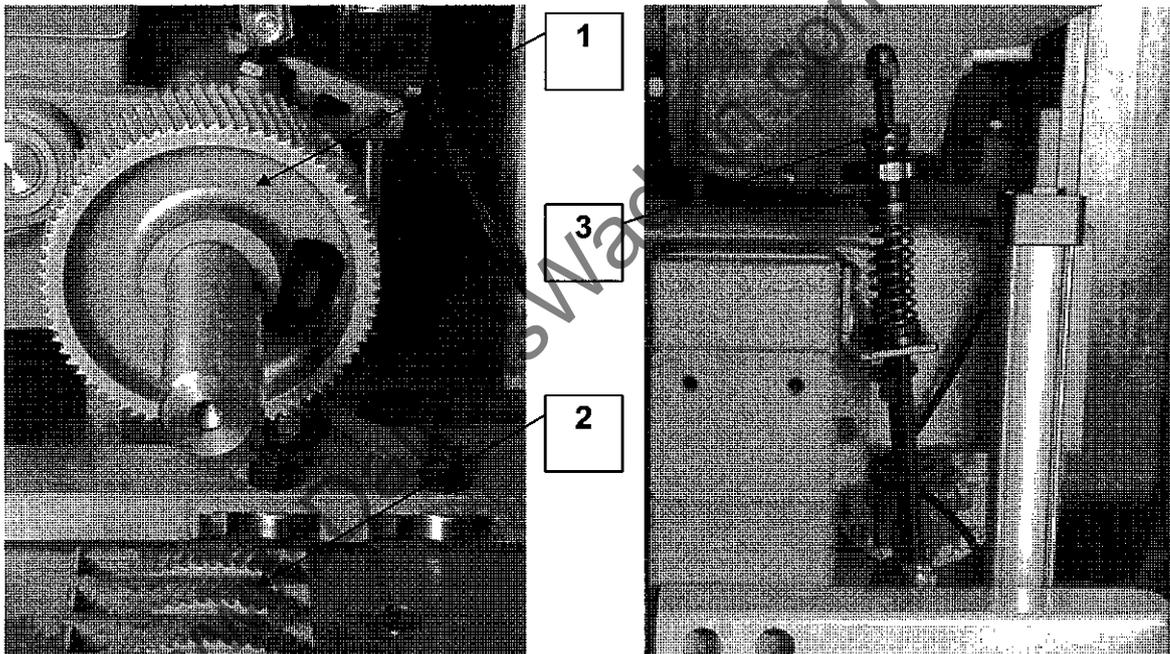

Figure 8.3
8.3 Infeed Nip Driven Roller System (Figure 8.3)